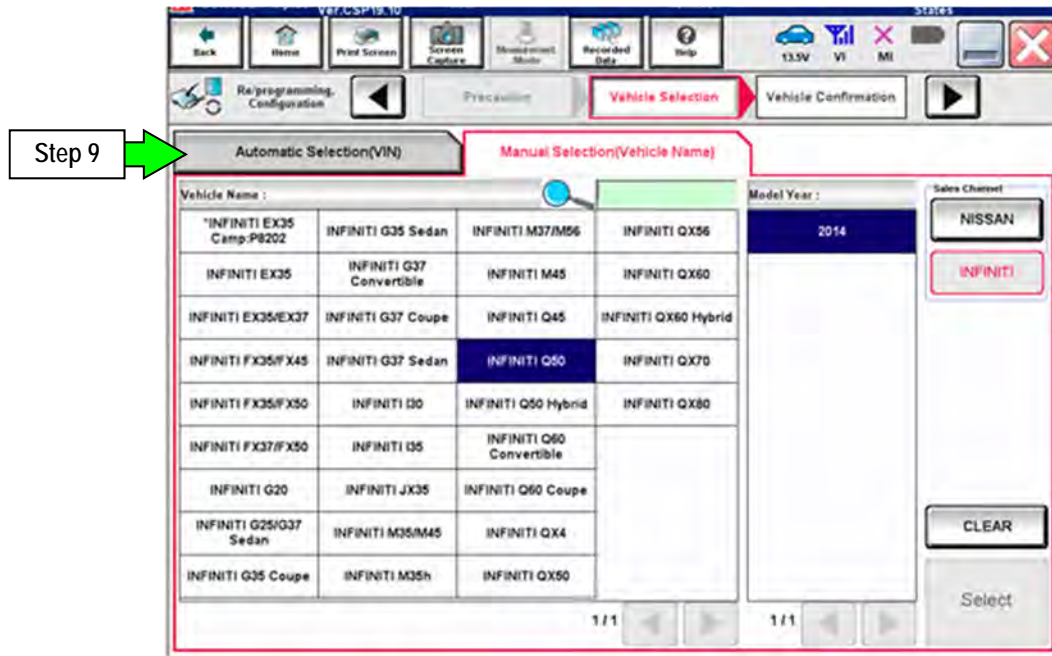

Figure 3
8. If the screen in Figure 3 does not display, skip to step 10.
9. If the screen in Figure 3 displays, select **Automatic Selection(VIN)**.